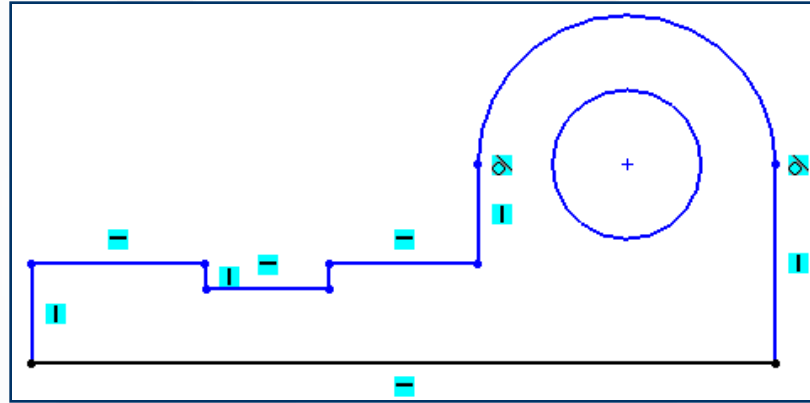

Figure 66 Final sketch for Tutorial 3
5. Draw the inner circle using the **Circle** tool, refer to **Figure 66**.